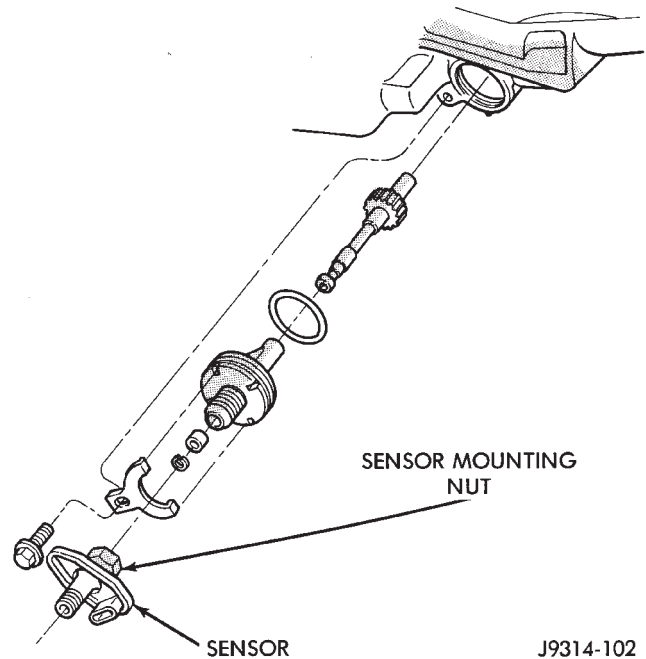

Fig. 18 Sensor and Components
- (1) Raise and support vehicle.
- (2) Disconnect the electrical connector from the sensor.
- (3) Remove (unscrew) the speedometer cable from the sensor (Fig. 18).
- (4) Loosen the sensor mounting nut (Fig. 18).
- (5) Remove the sensor.